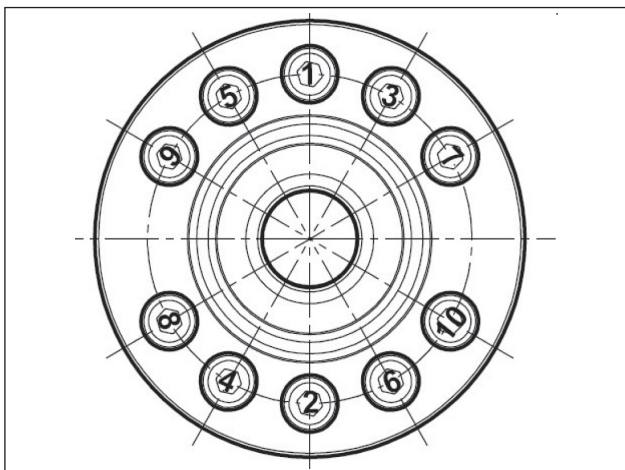

Fig. 49
- **** The supports fixing screws must be tightened respecting the phases and order shown in the diagram in Fig. 49.